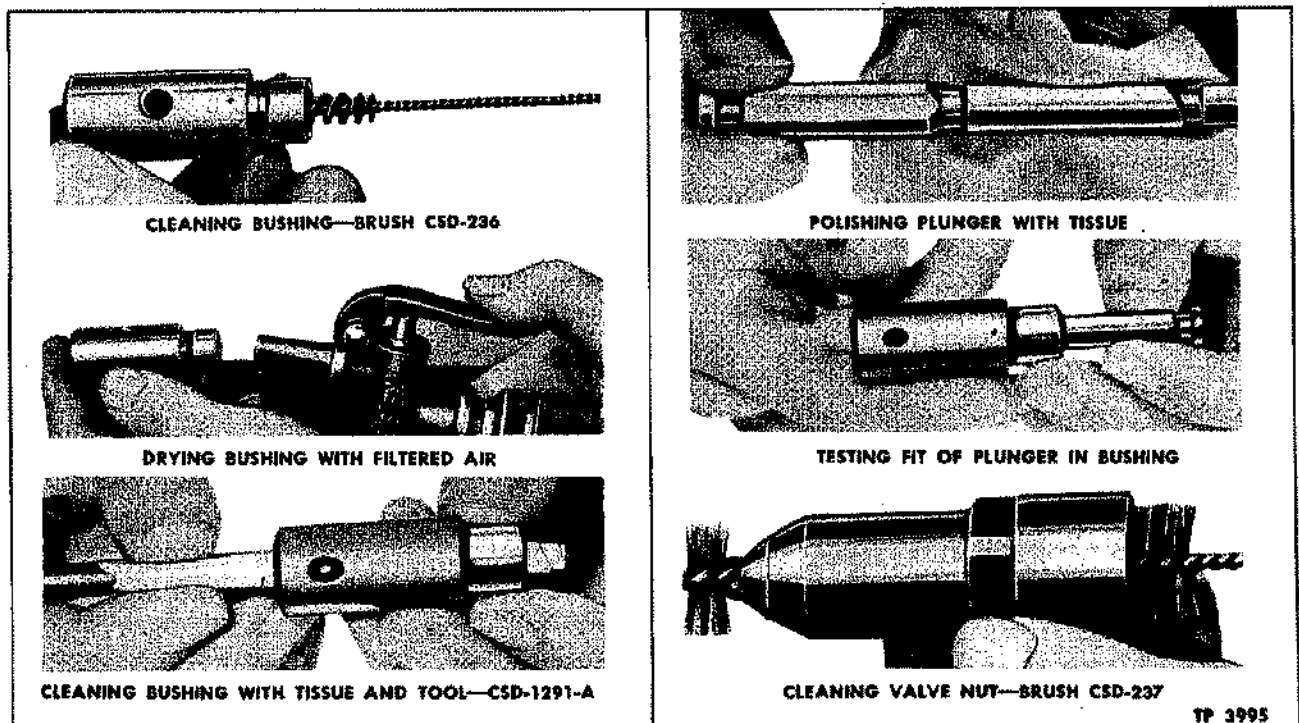

Figure 23B—Cleaning Plunger, Bushing, and Nut
6. When handling the injector plunger, do not touch finished plunger surfaces with the fingers. Wash plunger and bushing with clean fuel oil and dry with compressed air (fig. 23B). Final cleaning may be accomplished with soft tissue paper. Wrap tissue paper around bushing cleaner tool and clean out bushing bore (fig. 23B). Keep plunger and bushing together as they are mated parts.
10. Wash all the injector parts that were lapped in clean fuel oil or suitable cleaning solvent and dry with compressed air. Clean the inside of the injector bushing by wrapping clean tissue around bushing cleaner tool, and rotate in and out through bushing as shown in figure 23B.